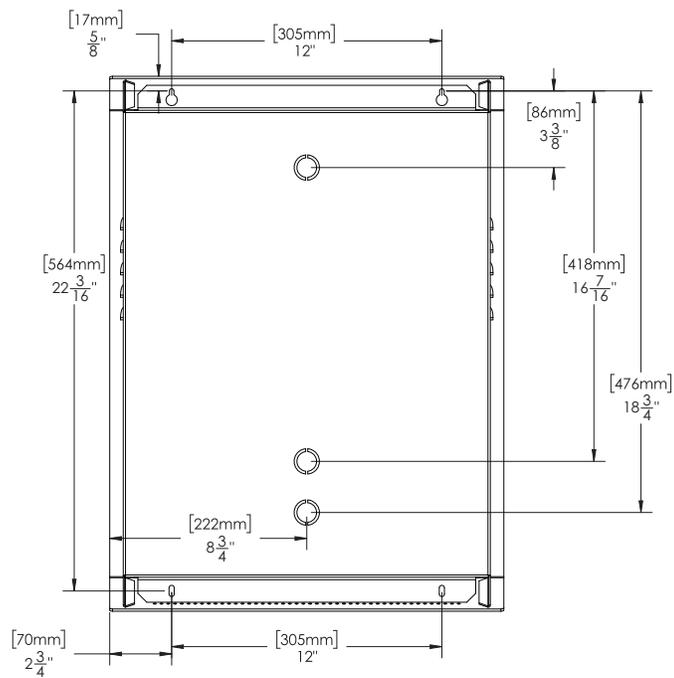

Figure 16. TX3-TOUCH-S15B-WR and TX3-TOUCH-S15S-WR dimensions (back)
2. Using the unit as a template, mark the back mounting locations of the two keyholes shown in Figure 16. Ensure that at least one side is over a wall stud.